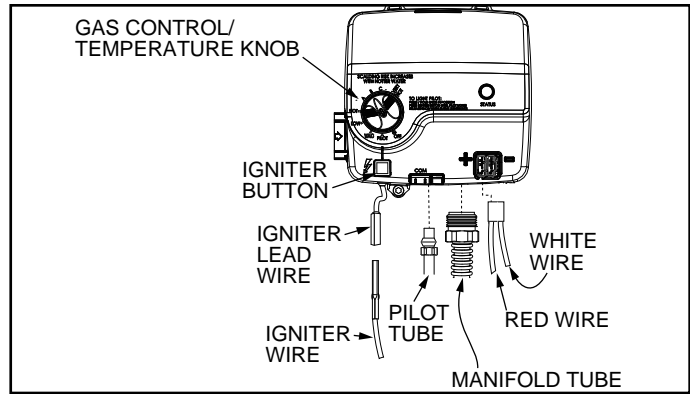

FIGURE 22
4. Disconnect the igniter wire from the igniter lead wire. Use needle nose pliers to disconnect the red (+) and white (-) thermopile wires. Disconnect the pilot tube (7/16" wrench) and manifold tube (3/4" wrench) at the gas control valve/thermostat (Figure 22). NOTE: L.P. Gas systems use reverse (left-hand) threads on the manifold tube.
1. Turn the gas control/temperature knob to the "OFF" position (Figure 22).
5. Disconnect the following from the gas control valve/thermostat: pilot tube (7/16" wrench), igniter wire (from the igniter lead wire), and manifold tube (3/4" wrench). See Figure 22. NOTE: L.P. Gas systems use reverse (left-hand) threads on the manifold tube.
6. Use needle nose pliers to disconnect the thermopile wire from the gas control valve/thermostat (Figure 22).